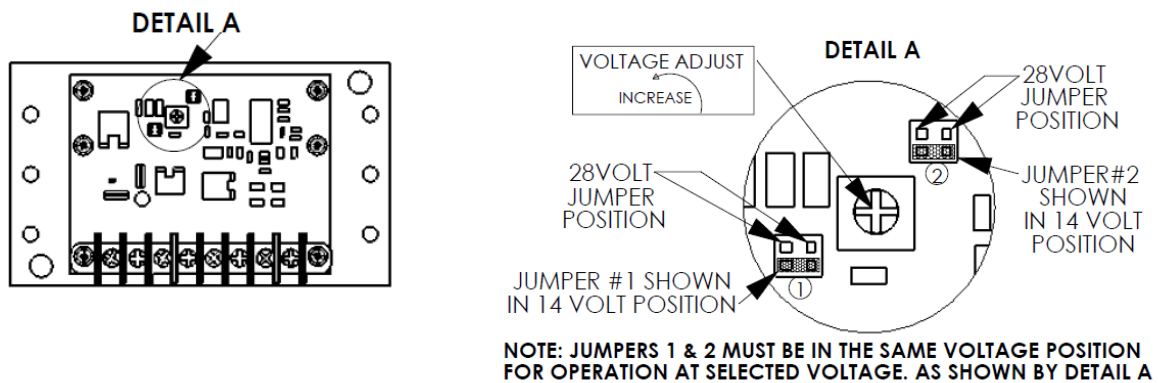

Figure 11: Voltage Regulator Voltage setting check
6. Remove the regulator cover and ensure that the internal jumper #1 and jumper #2 are set for 14V. Refer Figure 11.